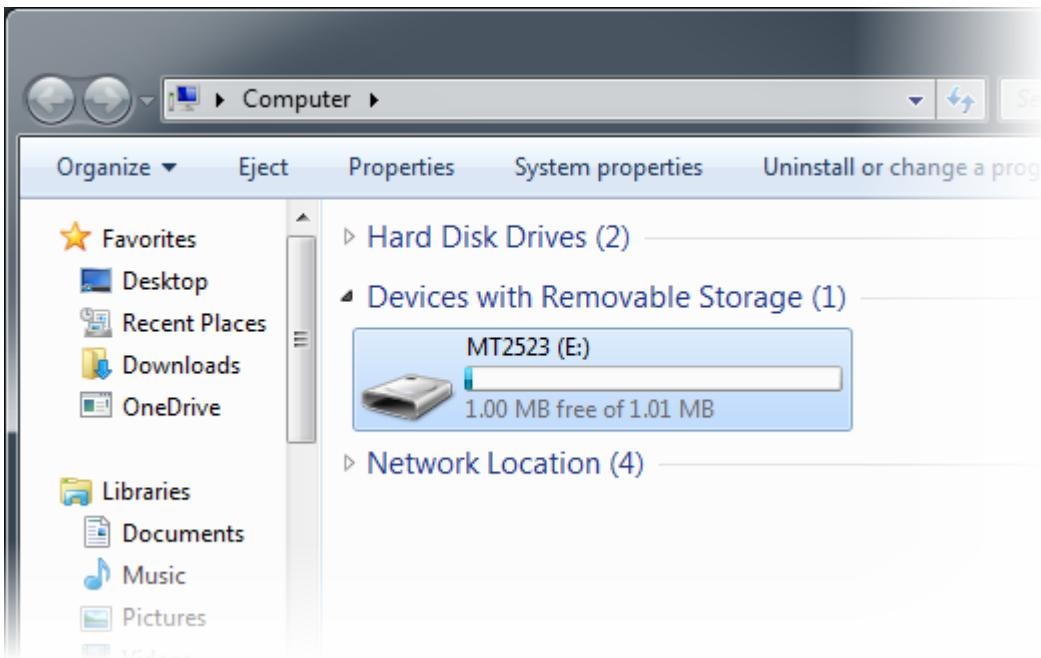

Figure 21. LinkIt 2523 HDK connected as removable disk storage
- 59) Navigate to **Computer** on your PC to check if a new mass storage named **MT2523** is available under **Devices with Removable Storage**, as shown in Figure 21.